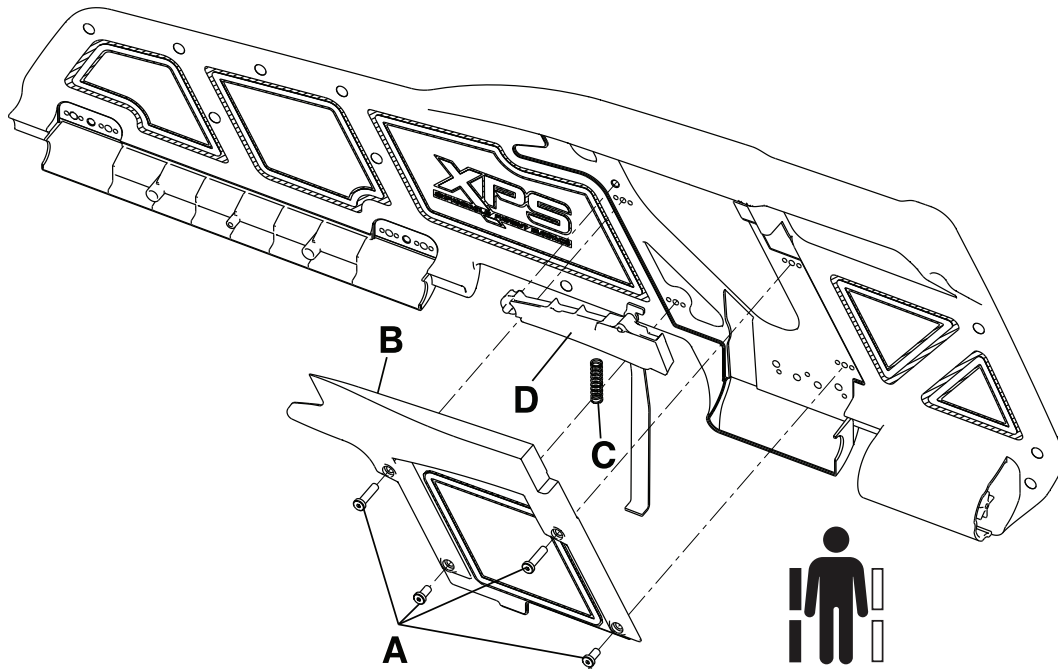

Figure 13: Release / Spring handle assembly replacement (XPS)
3. Using a 3/32" hex wrench, remove the four screws (A) that secure the release cover (B) to the overmold assembly to remove the release cover (Figure 13 on page 45).
4. Using a small slotted screwdriver, pry the release handle return spring (C) up to remove the spring (Figure 13 on page 45).
5. Grasp the release handle assembly (D), and hinge it upward on the spring side to remove it from the cover (Figure 13 on page 45).